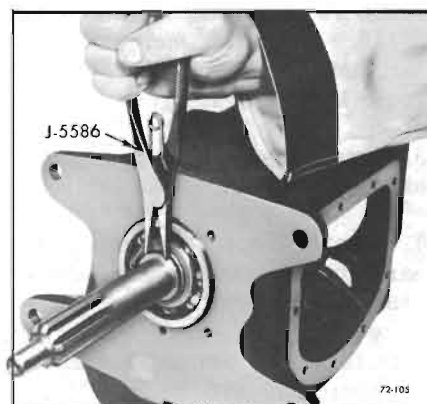

Figure 72-105—Removing Main Drive Gear Snap Ring
12. Remove main drive gear snap ring. See Figure 72-105 and remove spacer washer.